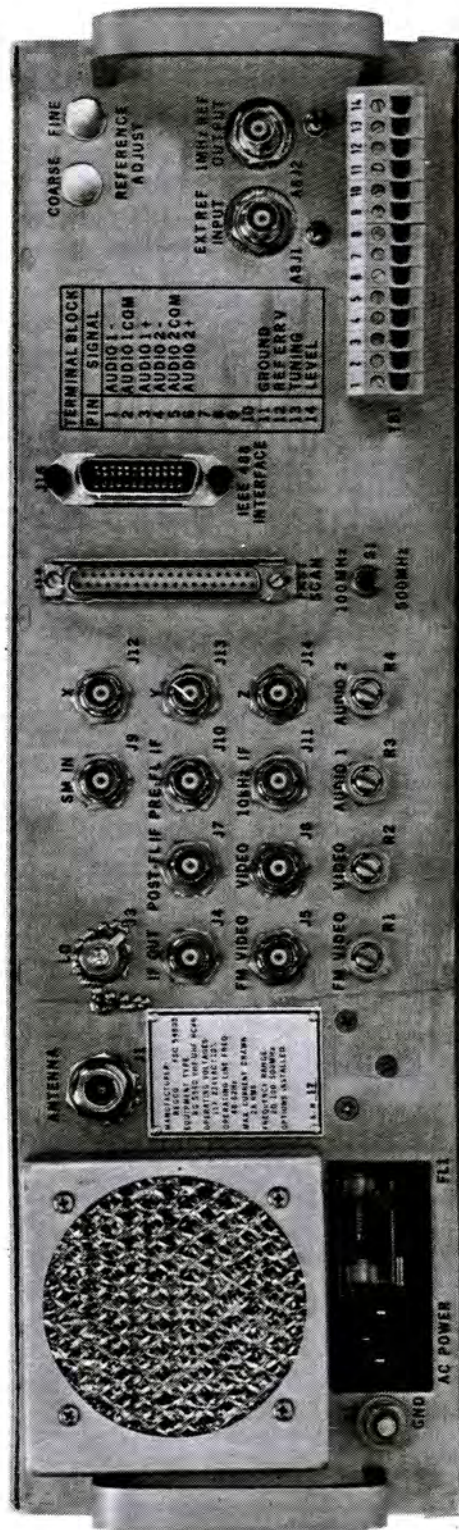

Figure 2-4. Rear Panel Connector Locations
1. Locate power filter assembly (Figure 2-4) on Receiver rear panel.
2. Connect power cord between AC POWER filter assembly FL1 on rear panel (Figure 2-4) and a correct AC power source as selected in Paragraph 2-6.
10. Connect a suitable antenna to the ANTENNA connector J1 on the rear panel. Refer to Figure 2-4.
2-15. REAR PANEL CONNECTORS. The rear panel connectors, terminal board and adjustments are shown on Figure 2-4 and described in Table 2-1.
3-4. Front panel controls and indicators are identified on Figure 3-1 and their operational functions are described in Table 3-1. Controls that are located on the rear panel are shown on Figure 2-4; however, they are also described in Table 3-1.